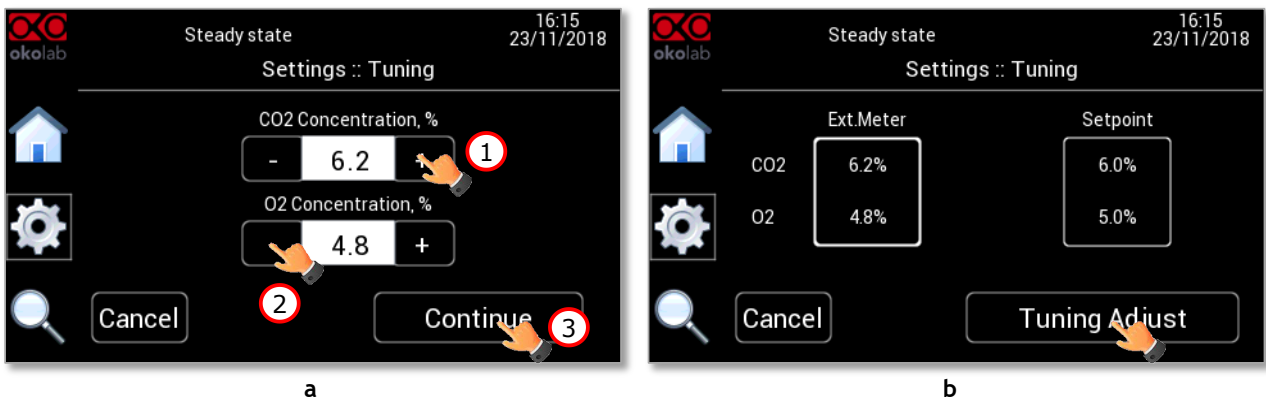

Figure 124. Tuning adjustment (a – b).
5. Press on +/- icons to input the CO₂ (1 in Figure 124 a) and O₂ (2 in Figure 124 b) compositions read by LEO (i.e. 6.2% for CO₂ and 4.8% for O₂).